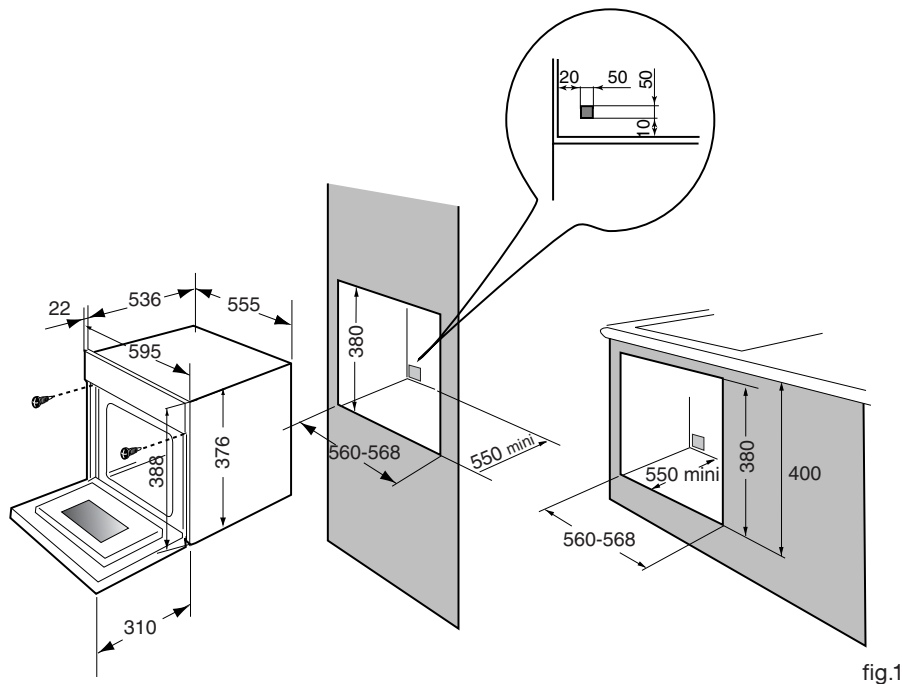

fig.1
- For increased stability, fix the oven in the cabinet by means of 2 screws through the holes designed for this purpose on the lateral mounts (fig.1).
EN 3 / DESCRIPTION OF YOUR APPLIANCE**• ACCESSORIES****• Safety grid with handle (fig.1)**
The display flashes at 12:00 (fig.1)